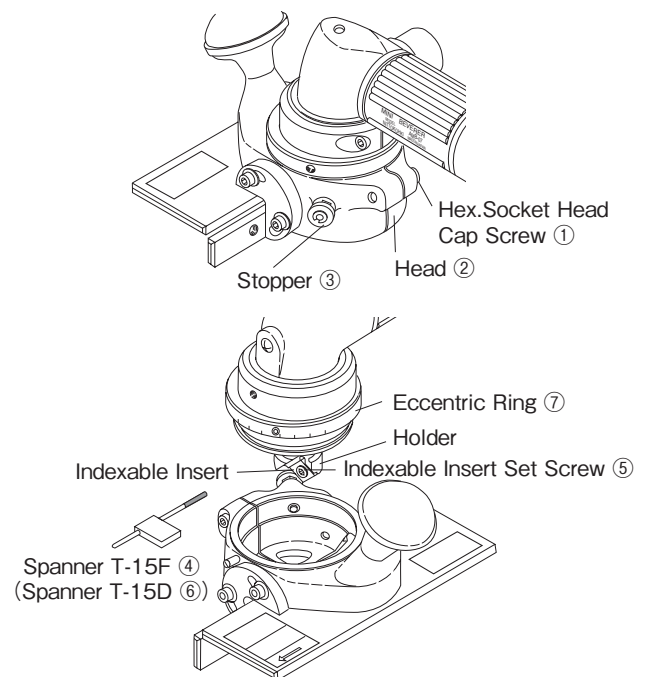

Fig. 19
(1) Loosen the Hex. Socket Head Cap Screw ① of the Head ② (Fig. 19).
(2) While pulling the Stopper ③ remove the Head ②.
(3) Unscrew the Indexable Insert Set Screw ⑤ with the Spanner T-15F ④ (or Spanner T-15D ⑥) and remove the Indexable Insert.
(4) Install a new Indexable Insert (or changing the side of Indexable Insert) paying attention to its shape.
(5) While keep pulling the Stopper ③, install the Head ② on the body.
(6) Firmly install the Head ② on the end of Eccentric Ring ⑦ without making any clearance and tighten the Hex. Socket Head Cap Screw ①.